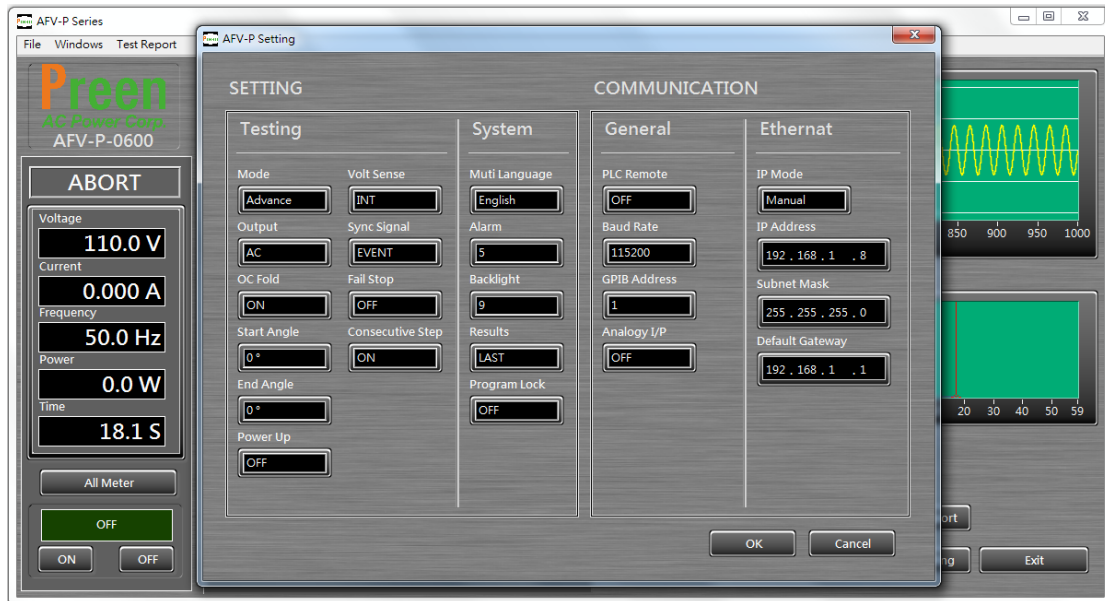

Figure 7.6 Setting page of the remote control software
14) Click to enter the setting page of the remote control software (see Figure 7.6).